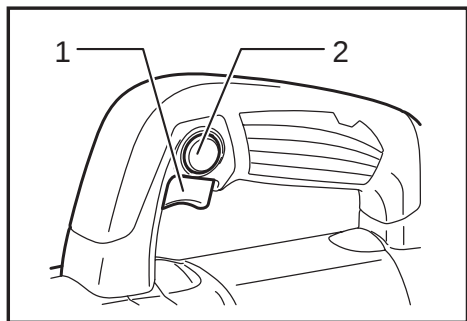

Fig.2
- **Fig.2:** 1. Switch trigger 2. Lock button